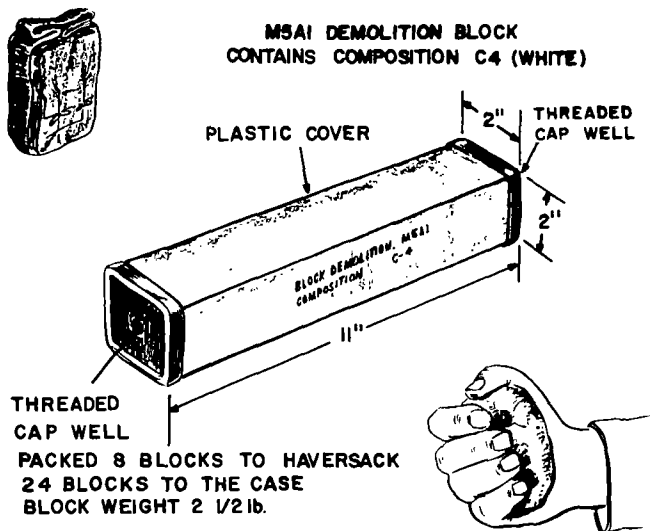

Figure 93. M5A1 demolition block.
- (3) *Detonation.* Composition C3 may be detonated with the special blasting cap, either electric or nonelectric. (See table I for detonation velocity.)
d. Composition C4 (M5A1 Demolition Block). Composition C4 (fig. 93) is a white plastic explosive, more powerful than TNT. Composition C4 is more stable than C3 and less subject to erosion when used as an underwater charge. At temperatures below -70° F., the explosive becomes hard and brittle; at temperatures above 170° F., it becomes extremely soft and exudes some of its oils.